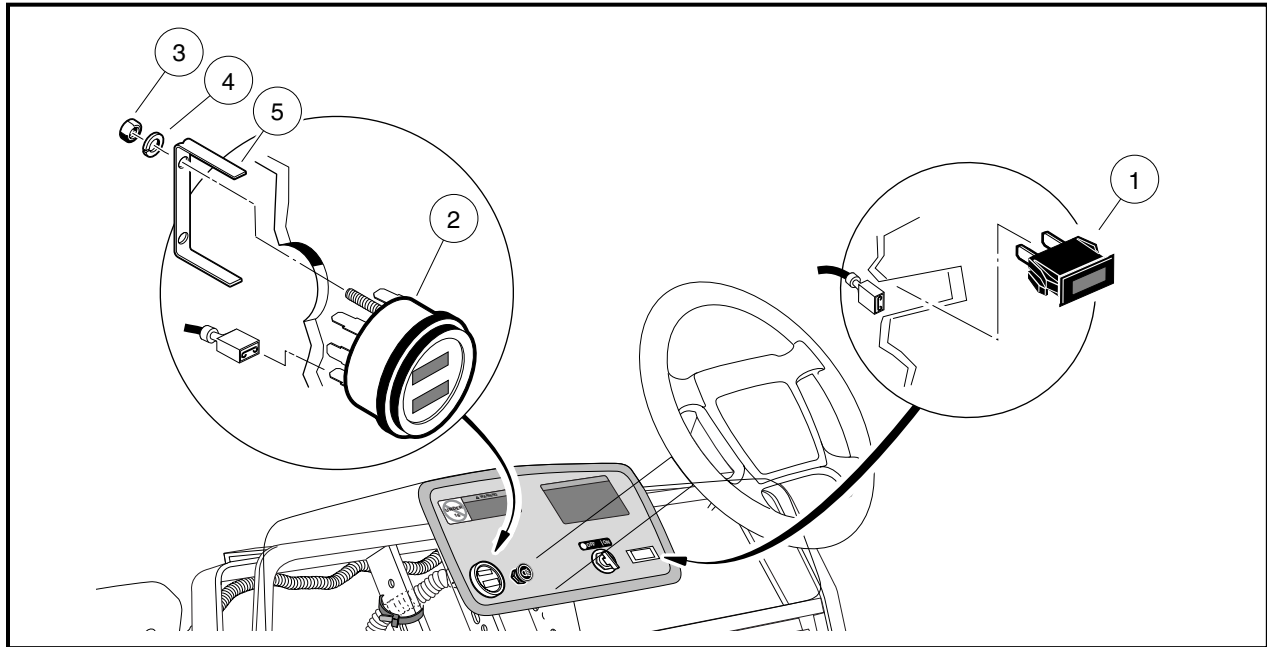

Figure 12a-24 Fuel Gauge/Hour Meter and Oil Warning Light Assembly
4. Disconnect the wires from the oil warning light (1) (**Figure 12a-24, Page 12a-21**). Do not allow wires to touch.
1. Push a new unit into hole in dash until plastic tabs engage dash (**Figure 12a-24, Page 12a-21**).
2. Disconnect the battery cables as instructed (Figure 12a-1, Page 12a-1). See **WARNING "To avoid unintentionally starting..."** in General Warning, Section 1, Page 1-2.